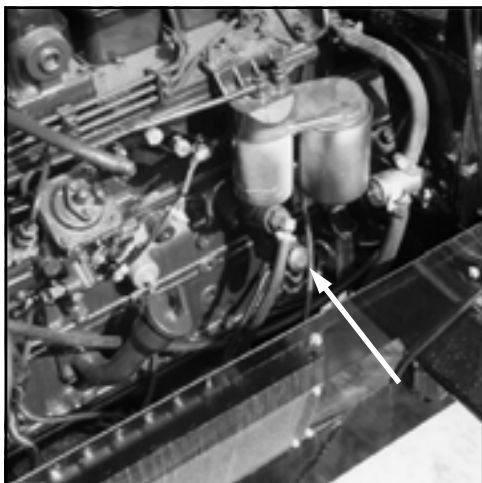

FIG 8.9
**PRIMING** - If the fuel system should happen to run dry and lose its prime, there is a priming bulb located on the left side of the engine for use in filling the engine fuel filters (fig. 8.9).